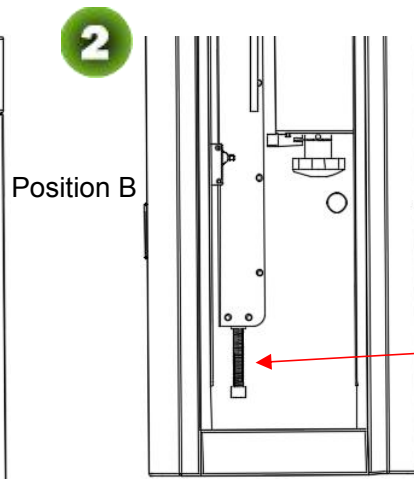

Figure 3-2B
- 2) If the boom shakes during falling or lifting, adjust position C. The shaking that occurs during lifting is caused by the overlarge spring force. In this case, loosen the screws. If the boom shakes during falling, tighten the screws. See Figure 3-2B.